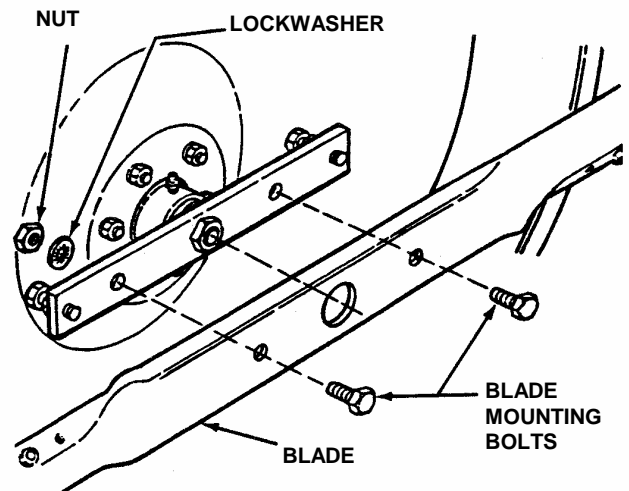

FIGURE 4.10
8. Reinstall blade. See Figure 4.10. Torque blade mounting bolts to recommended range of 30 to 40 ft. lbs.
4. Remove blade. See Figure 4.10.